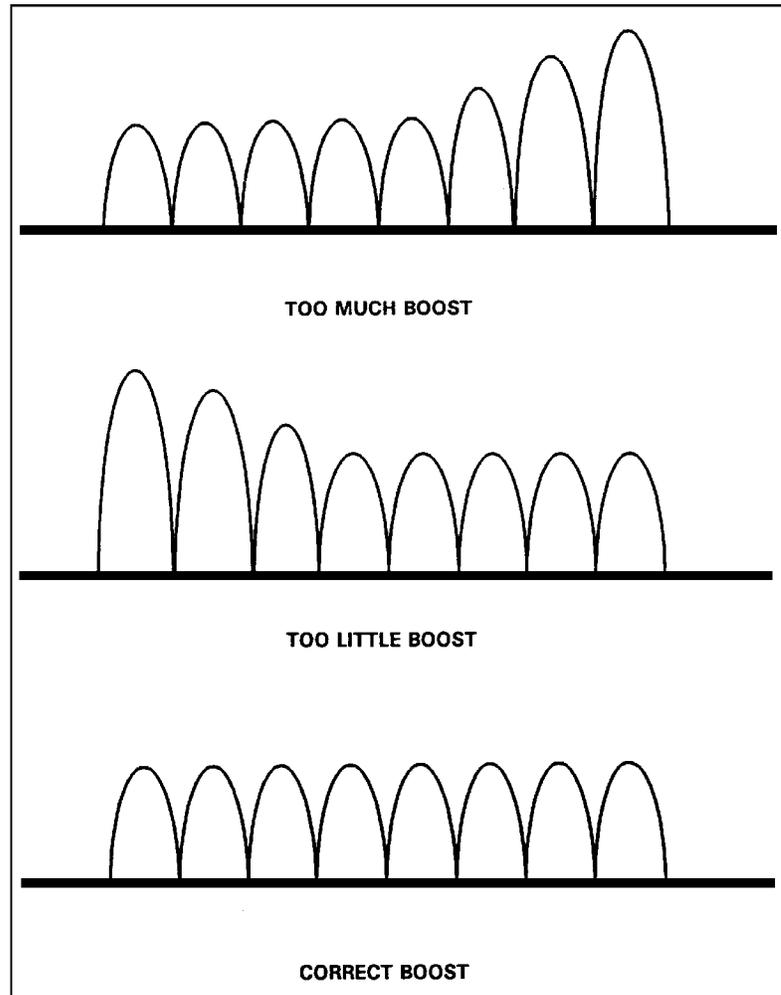

Figure 3-75
(2) Refer to Table 3-3 for the list of scope settings and corresponding pot used in making the adjustments. Make all adjustments at <78 kVp> and <1/4 second> exposure.
(3) To adjust boost, start with 25S mA and make an exposure. Compare the output of scope with Figure 3-75 and adjust P22 on the Constant Current Filament Control PCB (6284.234.1009). (See Figure 3-73.) Continue the adjustment until the output matches as closely as possible to the waveform labelled CORRECT.
- (5) Adjust the boost pot for the waveform as shown in Figure 3-75.
- (6) Repeat steps 3f(3) through 3f(5) 4 until all readings are within the specified tolerances. The pot adjustments interact, so it is necessary to adjust and recheck previously adjusted pots to keep in tolerance.
(7) Follow the same procedure for all mA stations shown on the Filament Calibration Worksheet, Table 3-4.